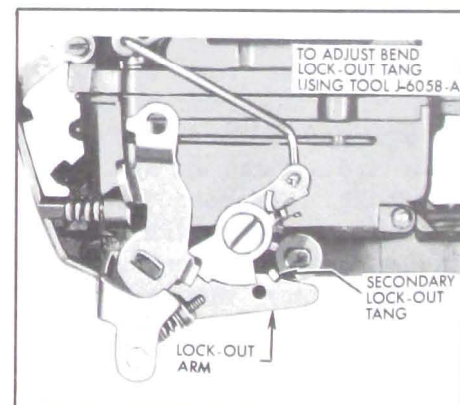

Figure 3-82—Secondary Throttle Lock-Out Adjustment
8. Adjust Secondary Throttle Lock-Out. Open primary throttle valves slightly to clear fast idle cam and manually open and close choke valve. Lock-out tang on secondary throttle should freely engage in notch of lock-out dog while barely missing edge of notch. If necessary to adjust, bend tang on secondary throttle lever using Tool J-6058-A. See Figure 3-82.